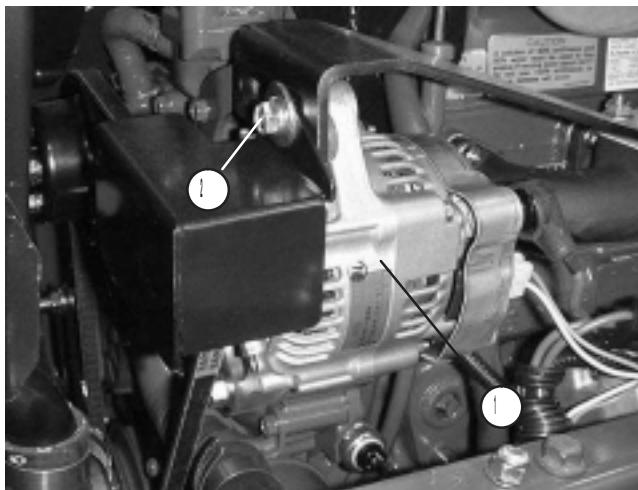

Figure 52
2. Proper tension will allow 3/8 in. (10 mm) deflection when a force of 10 lbs. is applied on the belt (Fig. 52) midway between the pulleys.